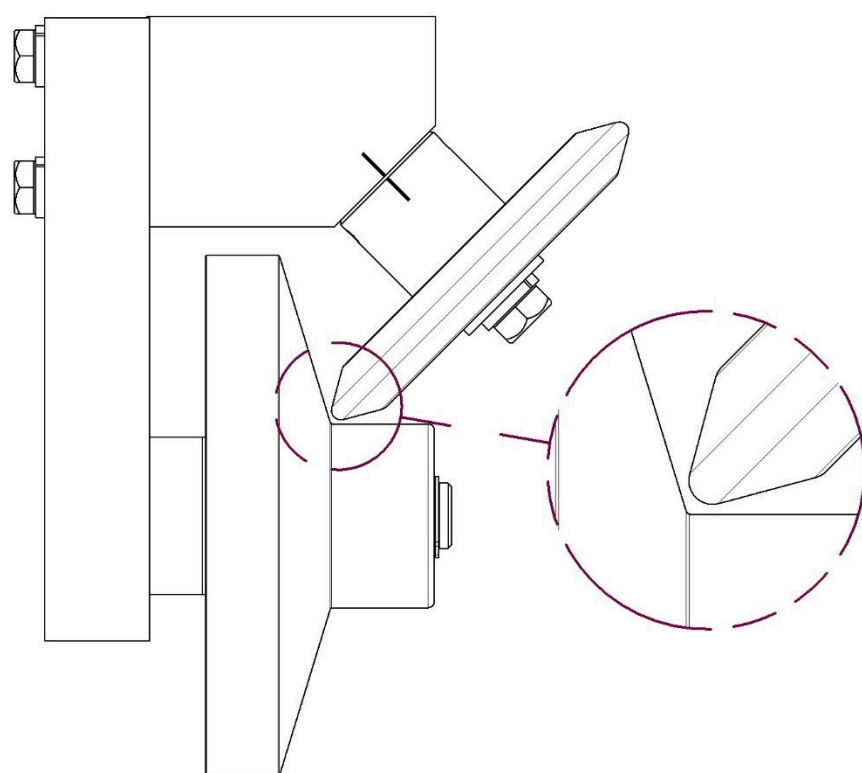
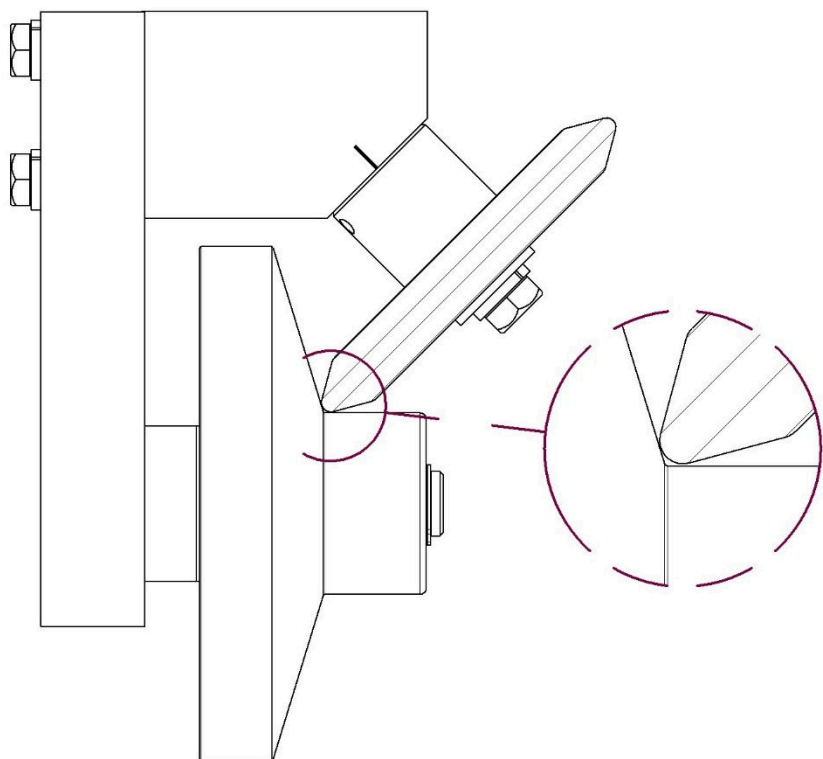

Figure 86: Eccentric Shaft Proper Adjustment
Figure 88: Eccentric Shaft Too Tight
3. Rotate the shaft to the desired angle. (See Figure 86 - Figure 88).